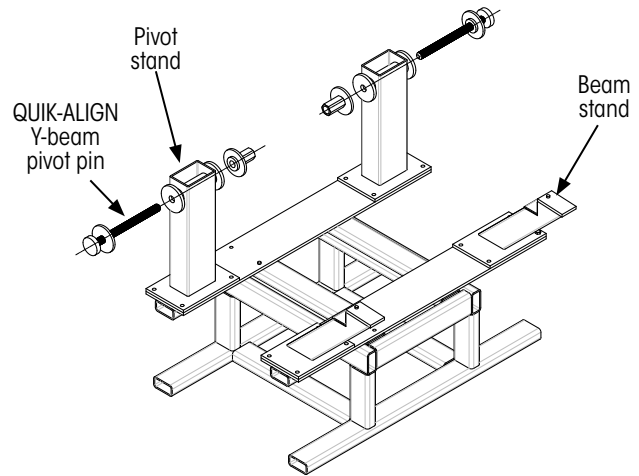

Figure 9: HT Axle Locating Fixture, *Y-beam* configuration
1. **Configure** the HT Axle Locating Fixture (Figure 9) with the proper beam and pivot stands for the Y-beam suspension being assembled.